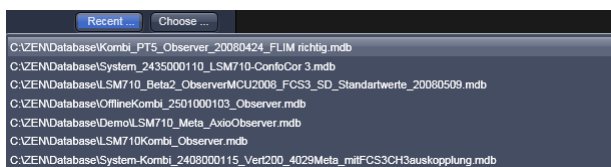

Fig. 9-2 Recent databases
- You can choose before booting the database if you open the **Hardware configuration database** window and pressing the **Choose...** button. Select a database from the Explorer window. If **Recent...** is pressed the last couple of databases that were in use will be displayed (Fig. 9-2), from which one can select the appropriate one.